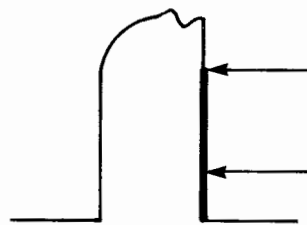

Figure 3. Skew Delay Waveforms
Connect scope probe "A" to the DAT TP of channel two decoder PCA (fourth card from the left in the read card cage). Connect probe "B" sequentially to the DAT TP of each of the other decoder cards. Adjust the vertical gain verniers such that scope channel A is approximately twice that of "B". Set the scope to algebraically sum channels "A" and "B" with "A" used for sync. The scope display should indicate one of the three possible waveforms shown in Figure 3.
Note the amplitude and width of the discontinuity in the trailing edges of the summed waveforms (see arrows in Figure 3). With channel two as reference, the discontinuity will either be at a higher or lower amplitude point depending on whether the non-referenced channel (B) leads or lags, respectively, channel two in time. The width of the discontinuity is the amount of time the channel being measured leads or lags channel two (as measured on the scope horizontal scale). If there is a single discontinuity in both the upper and lower amplitude points there is no skew difference (see Figure 3C). Determine this time difference for each channel with respect to channel two and write these values on a separate piece of paper.